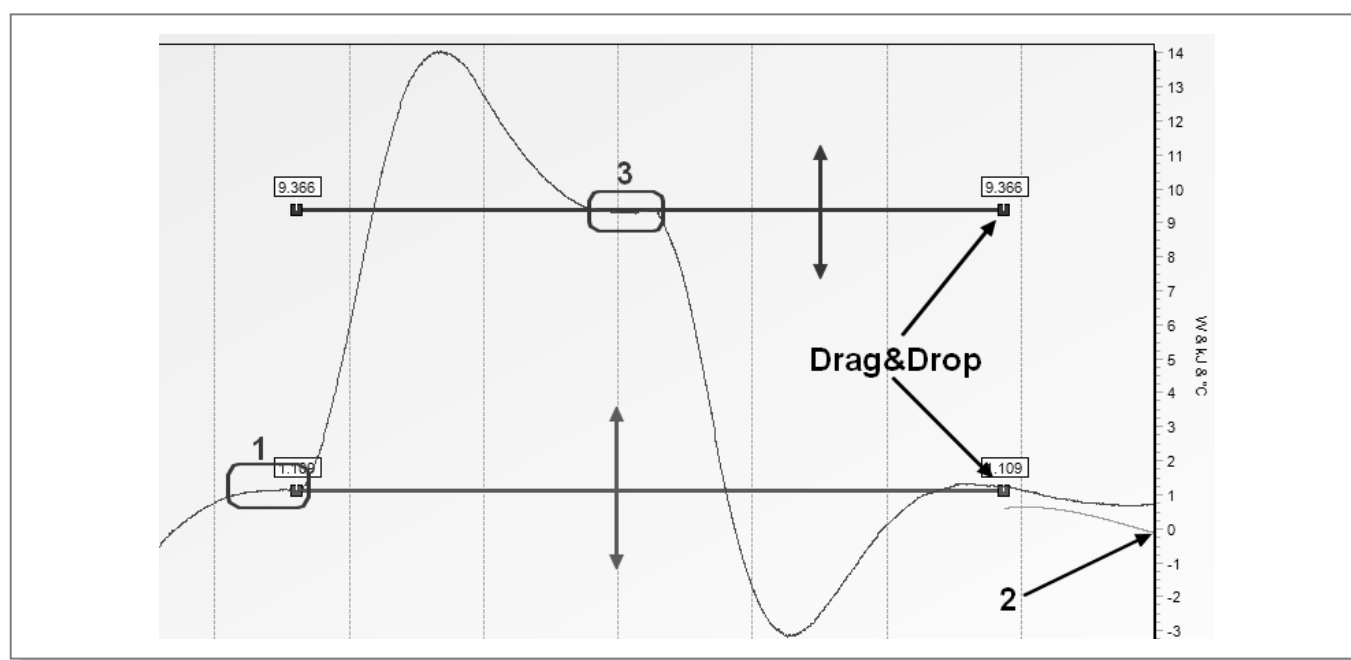

Figure 41
- 1) First, drag either of the two drag-and-drop points of the Zero Power Baseline graph up and down until the Zero Power Baseline is centred and level with the base of the $T_r - T_j$ line (point circled and labelled '1' in Figure 41) before the pulsation. When correctly placed, this should result in a level flat part of the 'Overall Enthalpy' graph before and after the addition.
- 2) Secondly, set the High Power Baseline by dragging either of the two points up and down until the High Power Baseline just rests on the high flat part of the $T_r - T_j$ line (shown in Figure 41 in the circled area labelled '3'). This corresponds to a position in the experiment when the power input from the heater is at a known high level and circulator and reactor temperatures are stable.